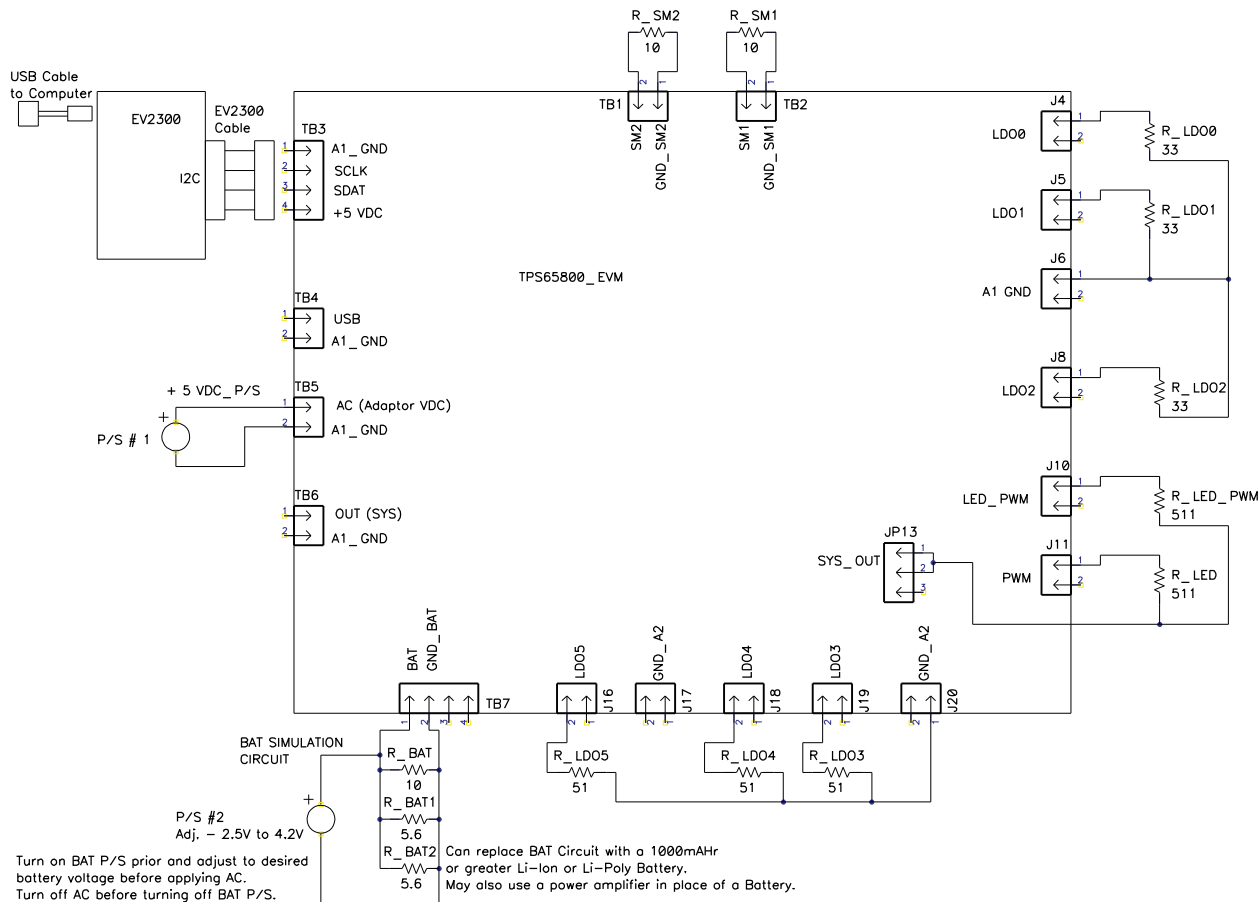

Figure 2. Equipment and EVM Setup
3. SM1/2 load board; 10-Ω, 1-W resistor load for each output TB1-1/2 and TB2-1/2. See Figure 2.
4. LDO load board: 33-Ω, 1-W each for J4-LDO0 to A1 GND, J5-LDO1 to A1 GND, J7-LDO2 to A1 GND; 511-Ω, 0.5-W pullup resistors J10-LED\_PWM to TP29-SYS\_OUT and PWM to TP29-SYS\_OUT; 51-Ω, 1-W load resistors for J19-LDO3 to A2 GND, J18-LDO4 to A2 GND, J16-LDO5 to A2 GND. See Figure 2.
5. Battery-simulated load board: Two 5.6-Ω, 20-W and one 10-Ω, 5-W resistors in parallel and connected TB7-1/2 (~2.19 Ω). See Figure 2.
- (d) Connect the loads shown in Figure 2. These are suggested loads, but the user can substitute any load that is within the specification of the IC. The PWM and LED\_PWM are open-drain outputs and require a external pullup resistor to OUT (System Power). TB6-1 or TP29 can be used as a source for SYS\_OUT.
- (e) Connect the battery-simulated load board shown in Figure 2 below UUT; leave bias supply off. A single-cell Li-ion battery can be used in place of the simulated battery if quick battery voltage adjustment is not needed for evaluation. The battery supply should be the first supply on and the last supply off to avoid putting the BAT output on an unpowered external supply. A power Schottky diode can be placed in series with the positive lead (anode to P/S+) of the battery supply to protect the supply, if necessary.
- (g) Preset P/S#1 to 5.1 VDC+/-0.1VDC, Current Limit to 2.5A, P/S#2 to 3.5VDC+/-0.1VDC, Current Limit to 2.5A, turn off supplies, connect P/S#1 to TB5-1&2 (+ to AC), and connect P/S#2 to TB7-1&2 (+ to BAT\_OUT). See Figure 2.